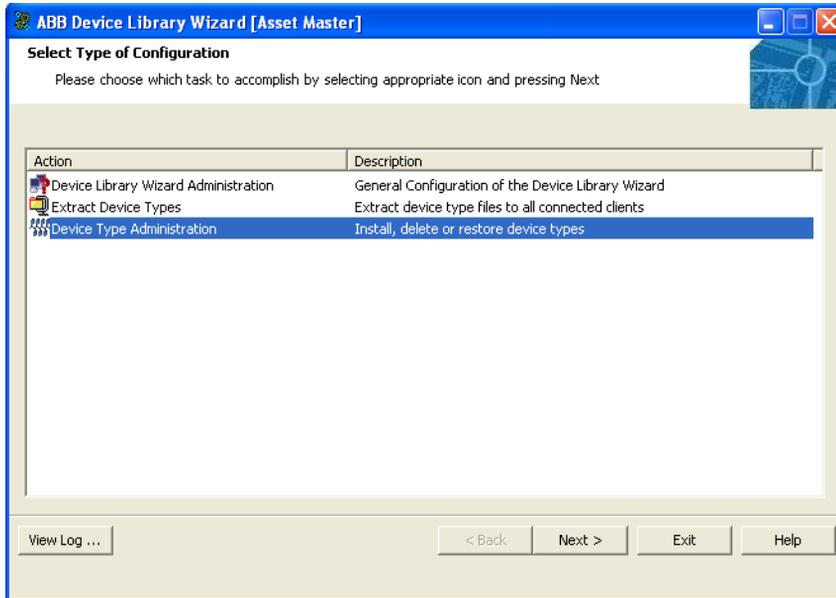

Figure 102. Select System
10. In the resulting screen, similar to the one shown in Figure 102, select **Select Device Type Administration** and click **Next**.